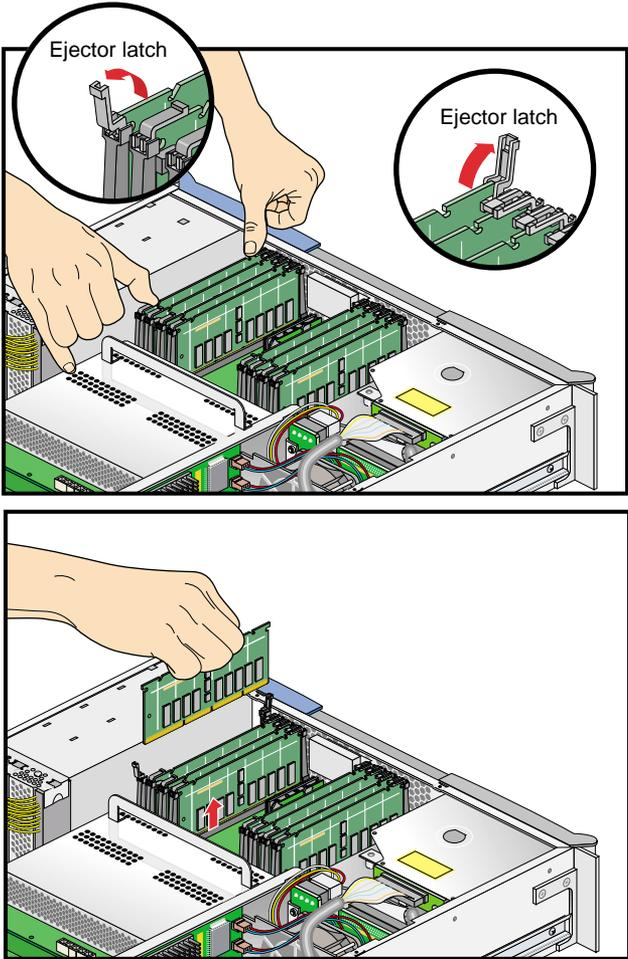

Figure 7-21 Removing a DIMM
8. Remove the DIMM, as follows (see Figure 7-21):